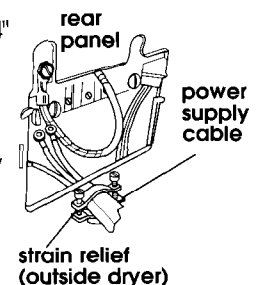

Figure 20
4. Attach 3/4" U.L.-listed strain relief (U.L. marking on strain relief) to the hole below terminal block opening (see Figure 20). Tighten strain relief firmly to cabinet so it is in a horizontal position. Place power supply cable through the strain relief.